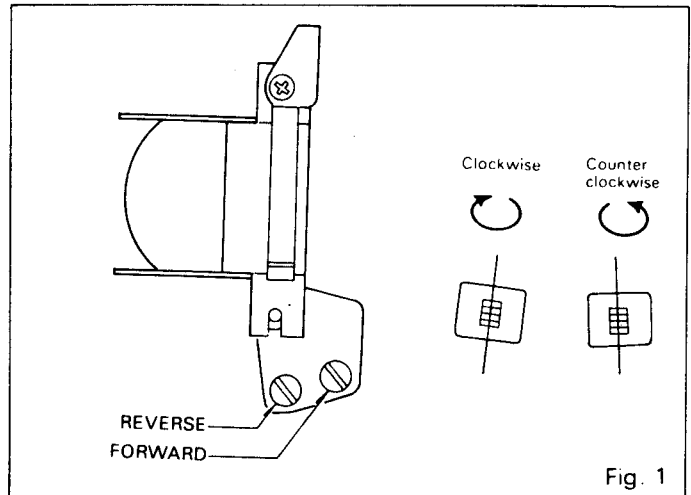

Fig. 1
1. Head Azimuth Adjustment (See Fig. 1)